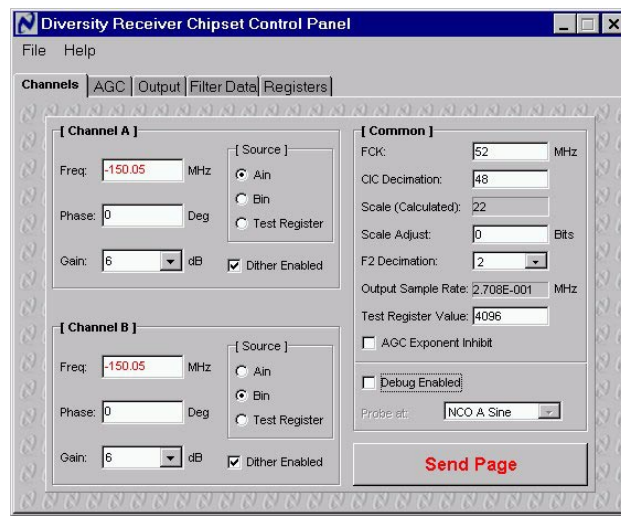

Figure 33 DRCS Channel Configuration, Serial Output
- On the **Channels** page of the DRCS Control Panel, enter -150.05 for **Freq** of **Channel A**, uncheck **Debug Enabled**. The screen should appear as in Figure 33. Click on the **Send Page** button.